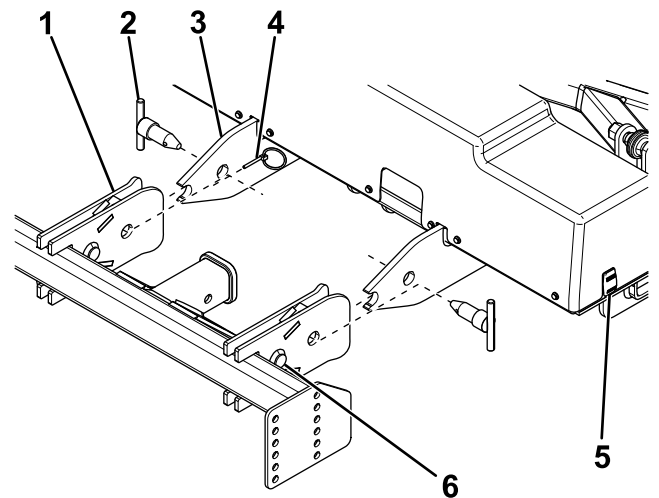

Figure 29
5. Remove the attachment pins securing the plow to the undercarriage (Figure 29).